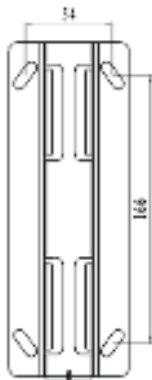

Fig 1
3. Take the mounting bracket as a template to mark the position for screws and drill four holes on the wall. Fig.1